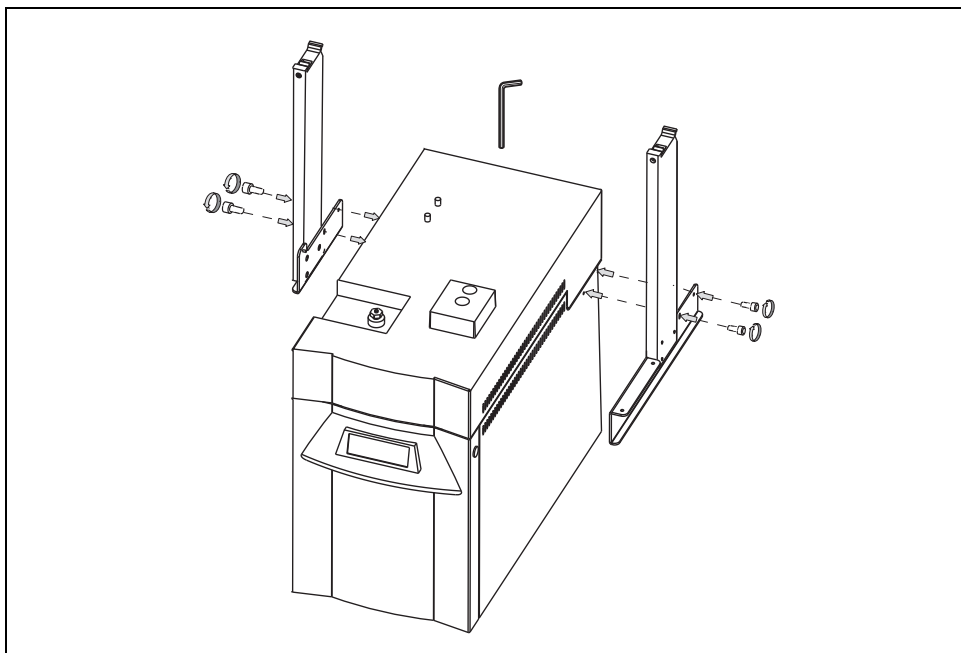

Figure 4-10. Sampler Supports Installation on an Agilent 6850 GC (1)
2. Mount the left and right sampler supports respectively on left and right sides of the GC as shown in Figure 4-10.